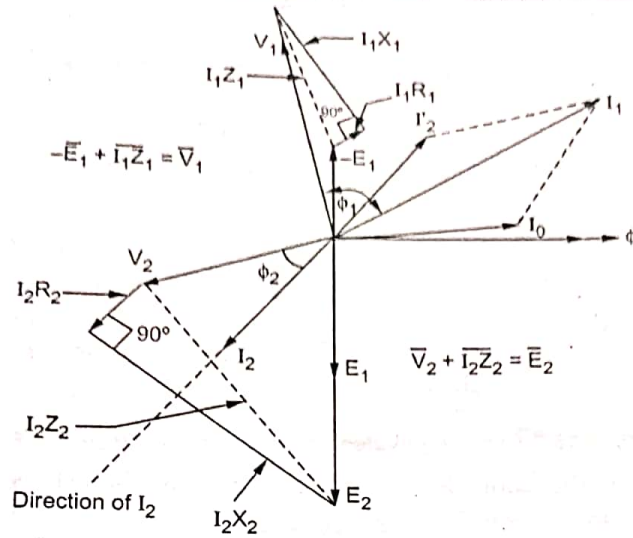

Fig. Q.15.3 Phasor diagram for leading power factor load
- The phasor diagram is shown in the Fig. Q.15.3.